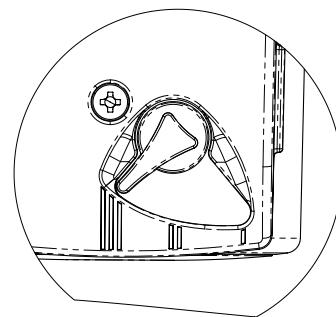

Figure 15-2: Pump Speed Setting
4. Verify boiler and system are full of water and pressurized. Verify pump speed is set to 3. (Figure 15-2) Pump located on right side of boiler.